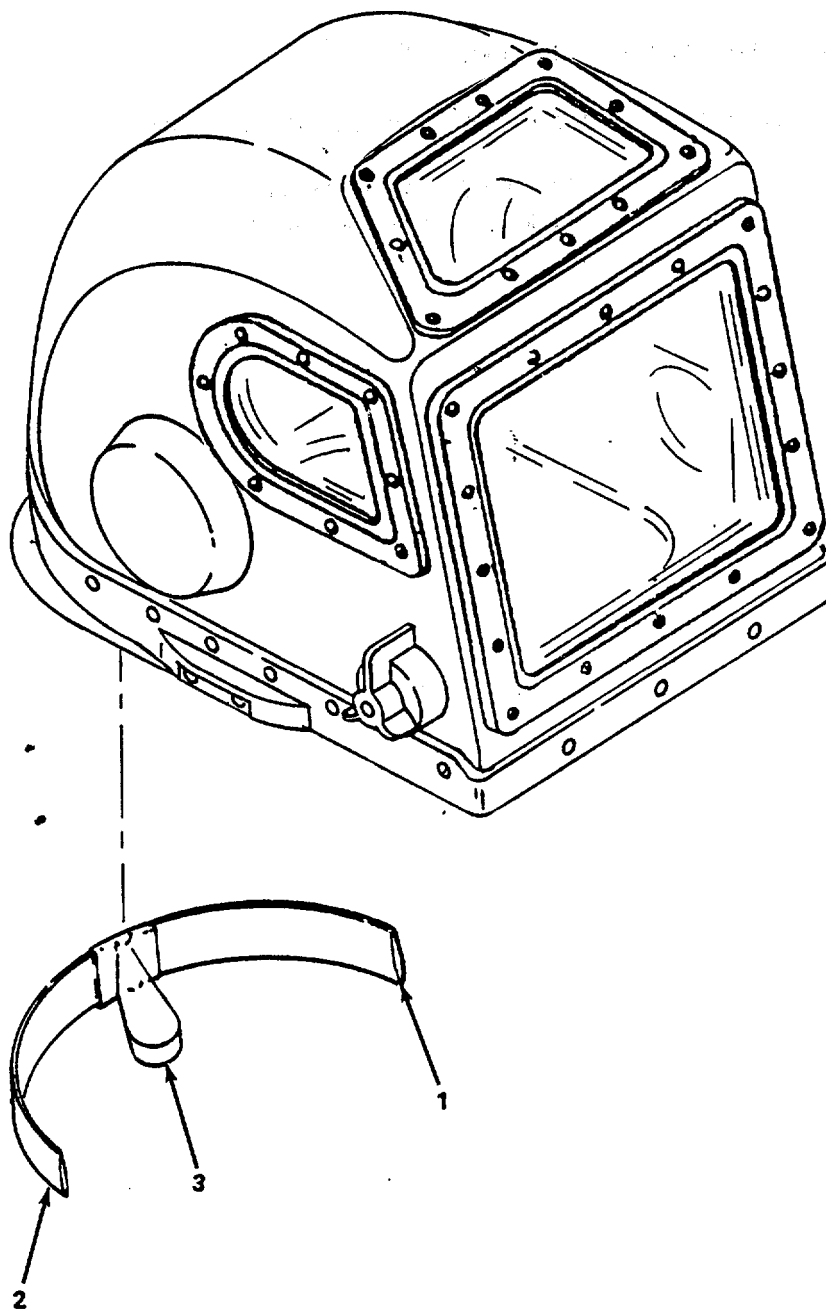

Figure 4-32. Return Duct, Replace.
- b. Replace (Return Duct. (figure 4-32)
- (1) Remove left return duct (1), right return duct (2), connector (3), and tie wrap.
- (2) Apply adhesive to mating surface on connector (3).
- (3) Install connector (3), right return duct (2), left return duct (1) and tie wrap.